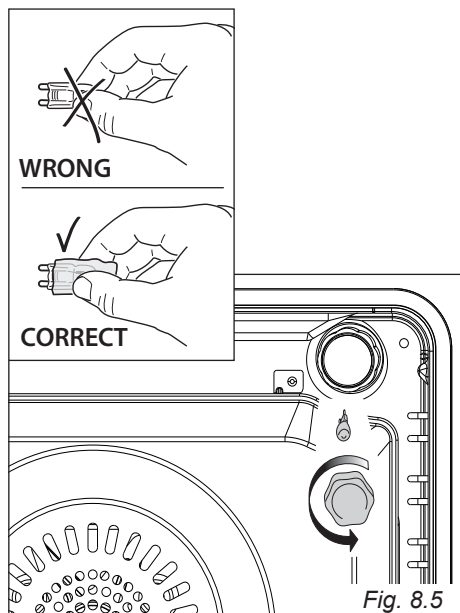

Fig. 8.5
- Remove the protective cover (fig. 8.5 - 8.6).